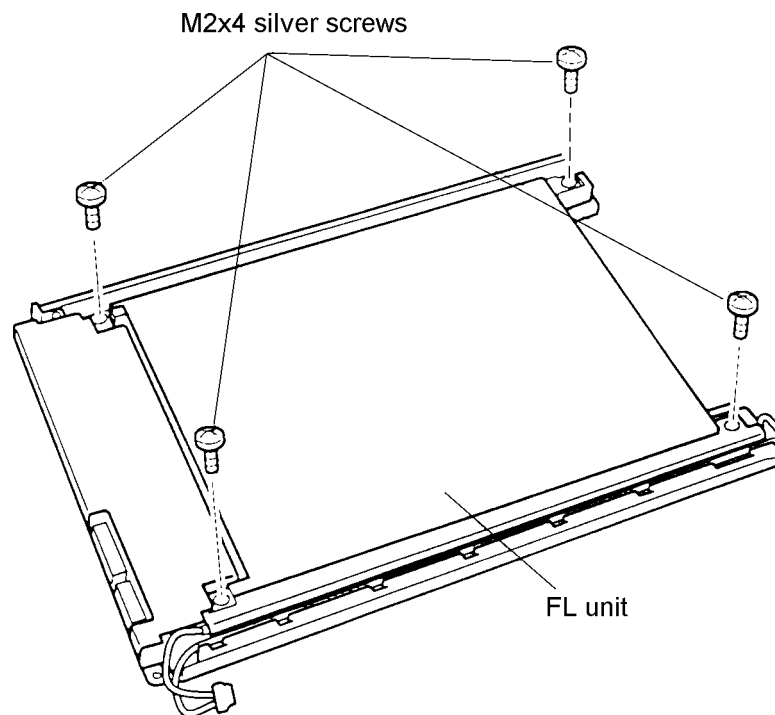

Figure 4-31 Removing the FL Unit Screws
To remove the TFT color fluorescent lamp (FL), follow the steps below and refer to Figure 4-31.
3. Noting display cable routing, place the **FL unit** face down and remove **four M2x4 silver screws** (Figure 4-31).
To install the TFT color fluorescent lamp unit, follow the steps below and refer to Figure 4-31.
1. Noting display cable routing, press into underlying groove, then seat the FL unit in the frame and secure **four M2x4 silver screws** (Figure 4-31).